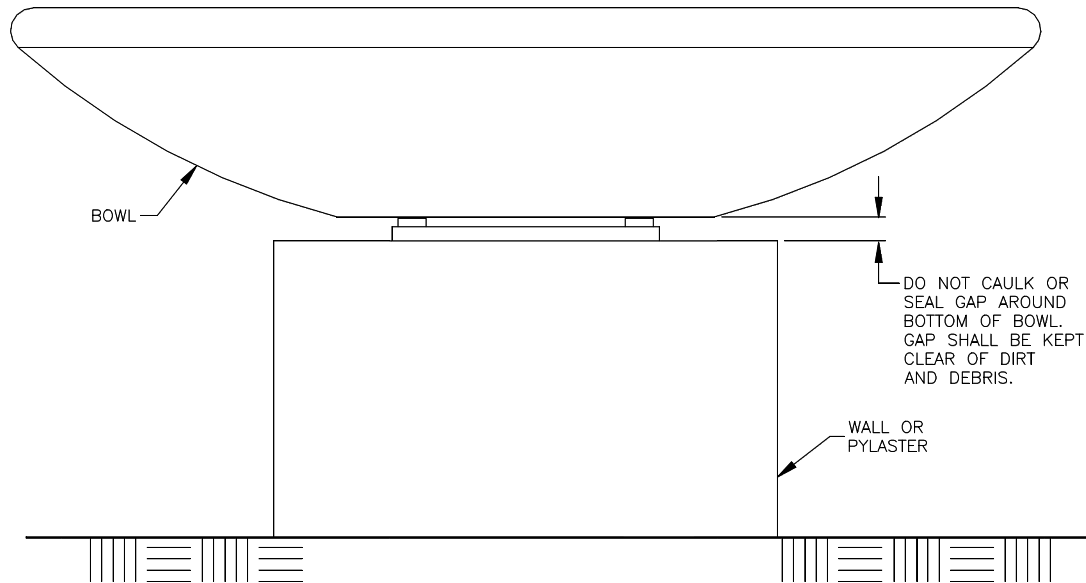

Fig. 10
(See Fig. 10)
- 5.3 Frequently inspect the gap between the base of the Bowl and the Mounting Bracket. It should be kept free of dirt and debris that may restrict cooling air and drainage. See (Fig. 10)